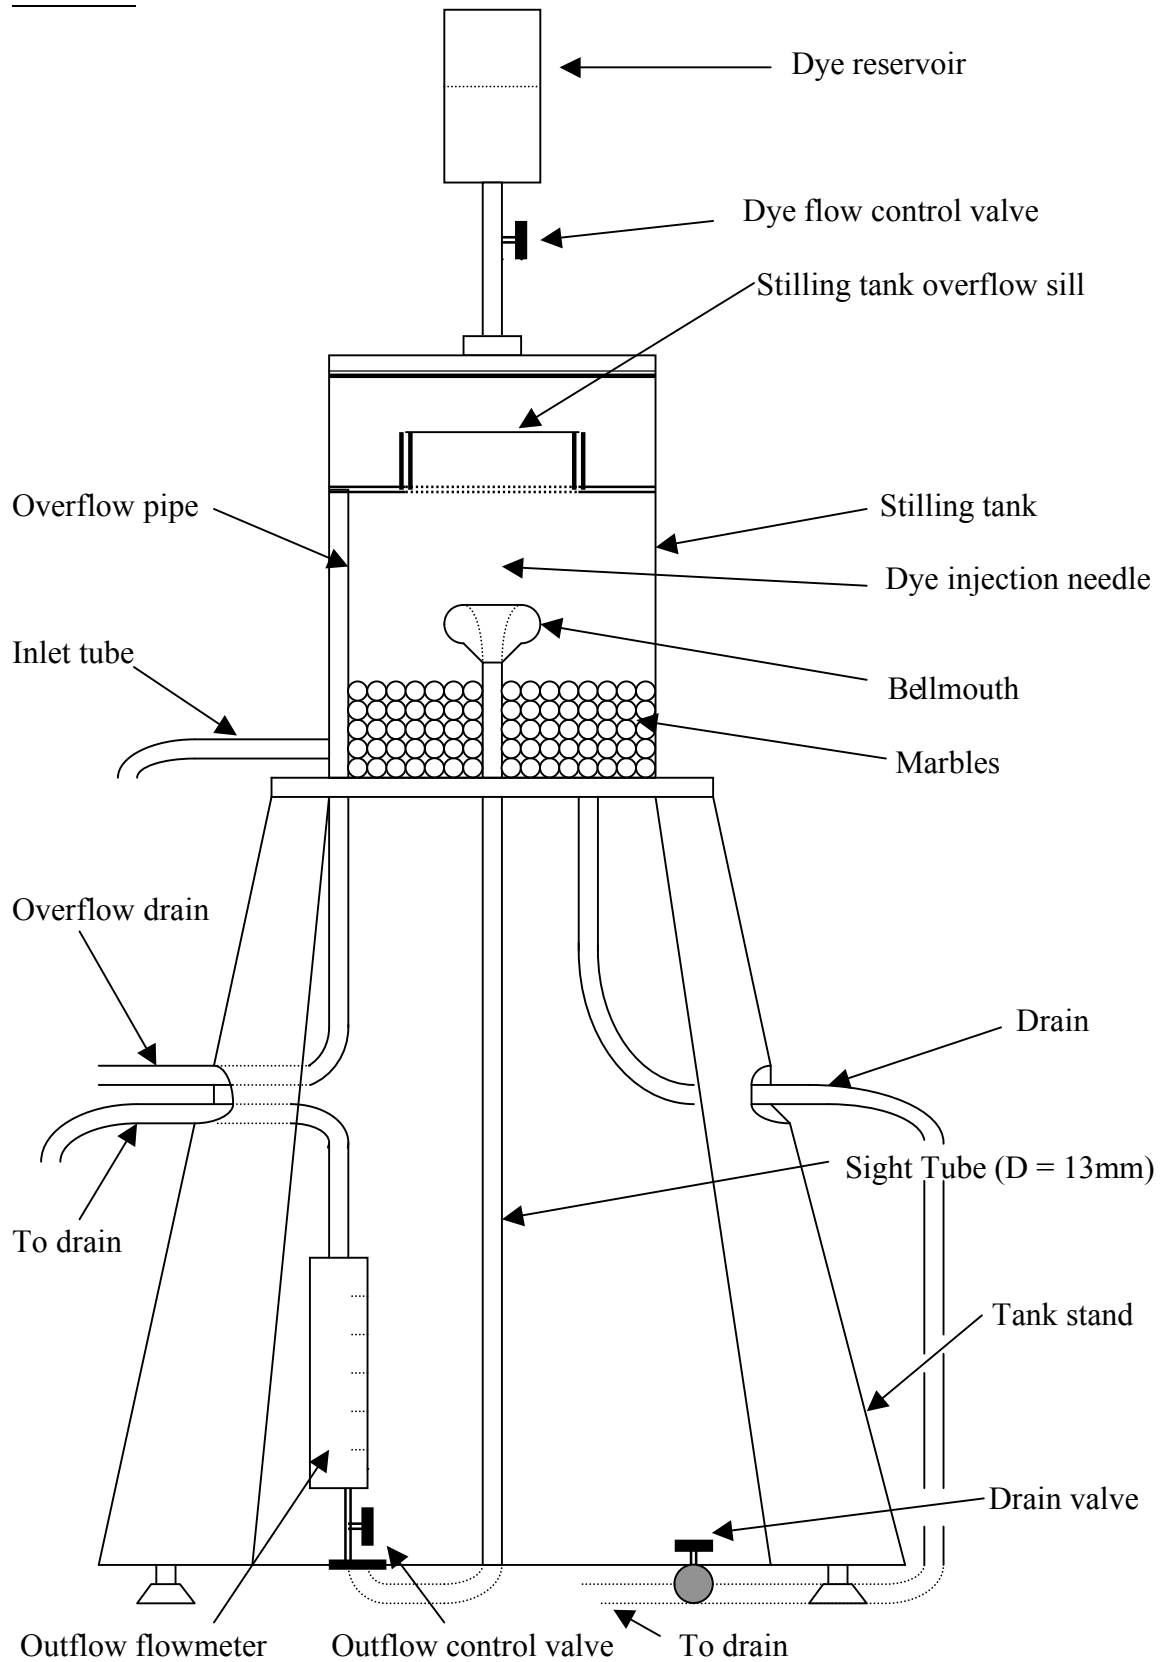

Figure 2: Reynolds Apparatus
2. Why are there marbles in the tank of the Reynolds apparatus (See Figure 2)?
1. Connect the inlet tube of the apparatus to the faucet and take all the drain lines to the sink. Make sure that the drain valve is closed (bottom right valve, it should be turned all the way clockwise). See Figure 2 for schematic representation of the apparatus.